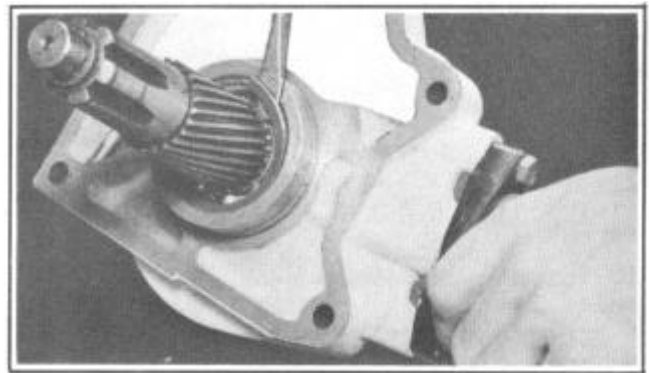

FIGURE 30
1. Remove the main-shaft rear bearing snap ring, Figure 30.